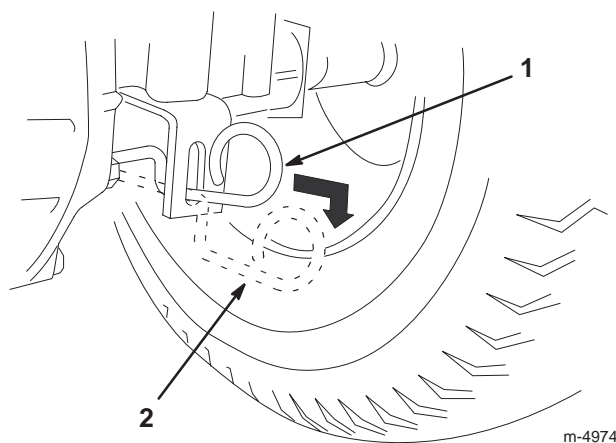

Figure 12
- Pull the drive control out to the Push position (Fig. 12).
Note: This disengages the drive system and allows the wheels to turn freely (Fig. 12).
Push the drive control in to the Operate position (Fig. 12).